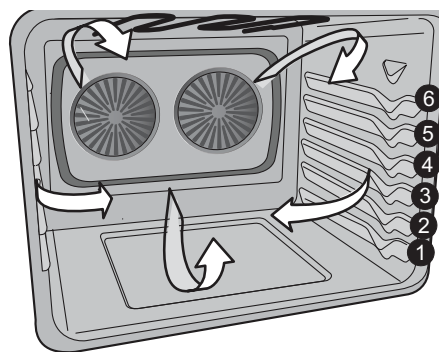

Figure 11: Convection roast air circulation and rack positions
Convection baking enables you to obtain the best results when baking with multiple pans and racks. The oven can be programmed for convection baking at any temperature between 170°F to 550°F. The convection function uses a fan to circulate the oven heat uniformly and continuously around the oven (Figure 11). This improved heat distribution allows for fast, even cooking and browning results. It also gives better baking results when using two oven racks at the same time. During convection baking, the convection fan may pulse on and off to maintain the set temperature for precise baking.
- For best results when baking cakes using two oven racks, place Glide rack in positions 5 with offset rack in position 1. (See Figure 11).